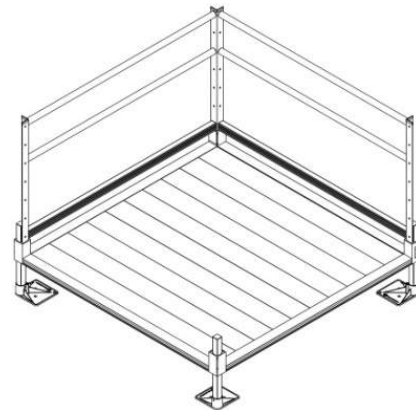

FIG. 2.10
- FIG. 2.10** Low profile platform turn configuration.